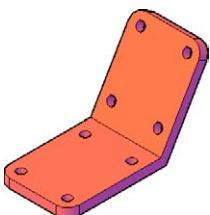

**Fig. 17.5** First example – **Changing UCS planes** – pline for extrusion
1. Set **UCSFOLLOW** to **1** (ON).
3. Construct the pline outline (Fig. 17.5) and extrude to **120** high.